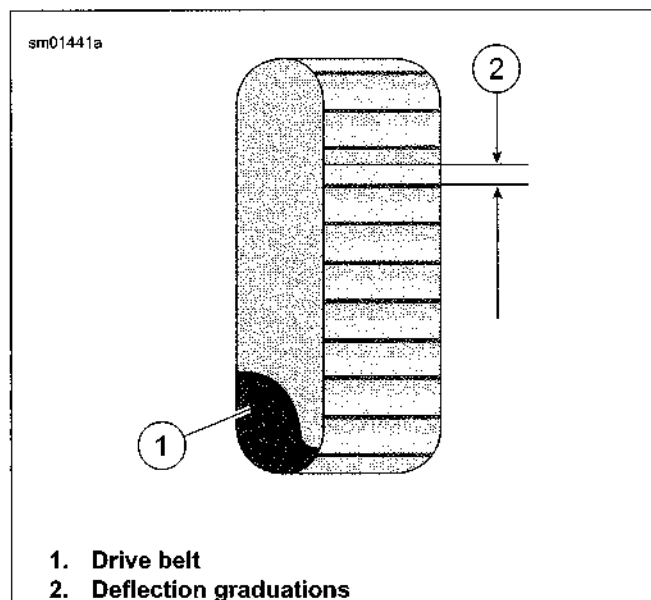

Figure 1-25. Belt Deflection Window
- a. **Models equipped with belt deflection window:** See Figure 1-25. Measure belt deflection as viewed through belt deflection viewing window while holding gauge steady. Each deflection graduation is approximately 1/16th in (1.59 mm).